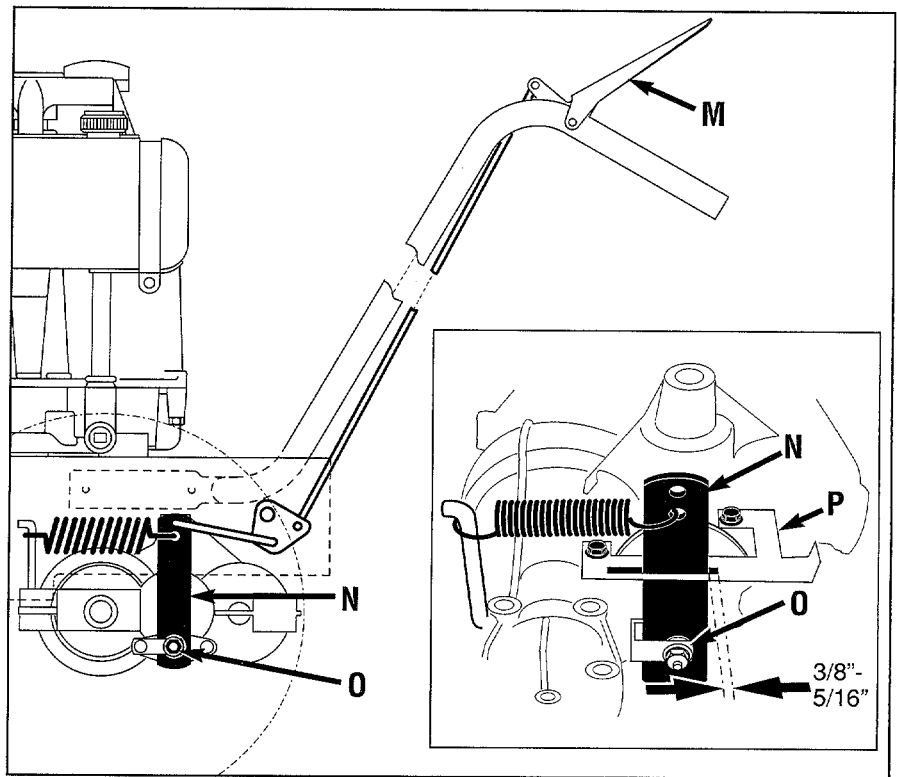

Figure 5-13: Wheel brake adjustment.
2. Disengage (release) the Operator Presence Control (M, Figure 5-13).
3. Slowly adjust at nut (O), if necessary, until the distance between the back of brake arm (N) and bracket (P) is $\frac{3}{8}$ "- $\frac{5}{16}$ ". Use small adjustments ($\frac{1}{4}$ turn maximum). **NOTE:** It may be necessary to relieve spring tension when decreasing distance. To do so, have an assistant engage the Operator Presence Control while you adjust the nut.
3. Hold down Operator Presence Control (M, Figure 5-13) and push unit forward and backward. Unit should move freely. If not, continue with Step 4.